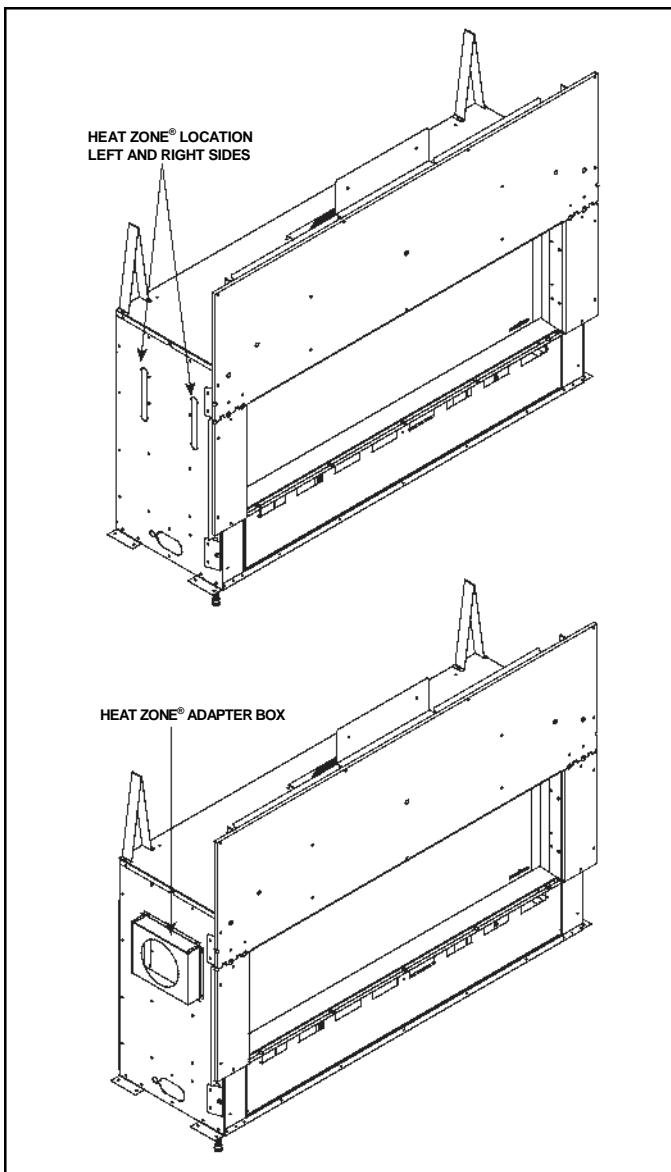

Figure 5.5 Heat Zone Adapter
- Locate the Heat-Zone® ports on the left and right sides of the appliance. See Figure 5.5. Remove the knockouts from the appliance with a tin snips.
- Place the Heat-Zone® adapter box into position prior to the final positioning of the fireplace as shown in Figure 5.5. Secure using eight self-tapping screws. Ensure the Heat-Zone® knockouts are completely covered by the adapter box.